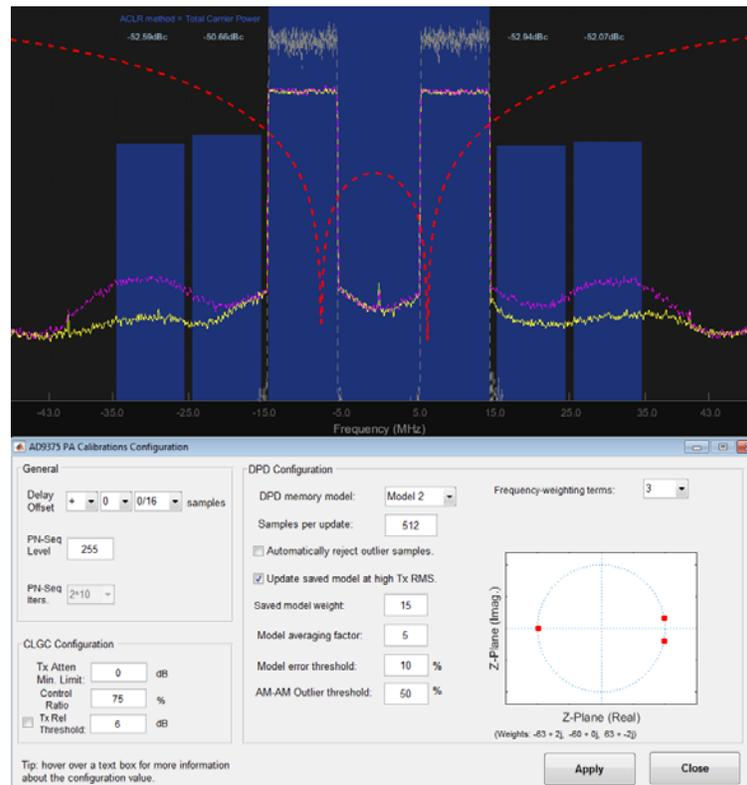

Figure 242. AD9375 PA Calibrations Configuration Window
Calibration configuration is controlled using the window shown in Figure 242. The subsequent sections explain each setting. See the Systems Design Considerations section for details on digital predistortion (DPD) tuning procedure using some of these settings.
Adjust the **Delay Offset** controls in decrements or increments of 1/16 of a sample, where the fractional part is the x/16 (see the dropdown menu), and the integer delay values can be adjusted using the integer dropdown menu (see Figure 242). For example, chose  $-1$ ,  $1$ , and  $1/16$  in the respective dropdown menus for a  $-1$  value with a 1/16 sample delay. Changes in the delay offset values requires rerunning the DPD initialization calibration. Refer to the additionalDelayOffset parameter in Table 193 for a detailed description.
The linear feedback shift register (LFSR) level and iterations control the power level of the wideband signal that is sent during the DPD initialization calibration. **PN-Seq Level** is a fixed value for information only (see Figure 242). Refer to the pathDelayPnSeqLevel parameter in Table 193 for a detailed description.
The **DPD Configuration** section of the **AD9375 PA Calibrations Configuration** window allows the user to manipulate certain key parameters of the DPD engine (see Figure 242). For more detailed instructions on tuning DPD using these configuration parameters, see the Systems Design Considerations section.
The **DPD memory model** dropdown menu allows the selection of between four different polynomial models to model the PA with, based on various implementations of generalized memory polynomials (see Figure 242). See the DPD Actuator Model Configurations section for more details. Refer to the modelVersion parameter in Table 193 for a detailed description.
The **Samples per update** text box controls the number of input samples required to complete a DPD adaptation (see Figure 242). Refer to the samples parameter in Table 193 for a detailed description.
The **Automatically reject outlier samples** box is deprecated and its use is not supported (see Figure 242). Refer to the robustModeling parameter in Table 193 for more details.
Enable the **Update saved model at high Tx RMS** box to allow the DPD to update a separate high power power amplifier (PA) model that remembers high amplitude PA characteristics and improves adjacent channel leakage ratio (ACLR) in dynamic power conditions (see Figure 242). Refer to the `highPowerModelUpdate` parameter in Table 193 for a detailed description.
The **Saved model weight** text box controls how much weight or influence the high power startup power amplifier (PA) model is given when computing the final applied predistortion function (see Figure 242). Refer to the `modelPriorWeight` parameter in Table 193 for a detailed description.
For example, see Figure 242 and note the multicarrier  $3 \times 5$  MHz 101 configuration. The locations of the zeros indicate that the DPD must focus more on the ACLR side of the spectrum rather than the error in the carriers themselves. The improvement for tougher cases can be as good as 2 dB to 3 dB in ACLR performance. Note, however, that some error vector magnitude (EVM) degradation may occur due to the lack of focus of the DPD on the carrier themselves. As always, tuning the DPD is a systems choice and must be done with due consideration to the permissible limits of performance tolerance for all systems metrics, 3GPP mandated or otherwise. Refer to the `numWeights` and `weights[3]` parameters in Table 193 for a detailed description.